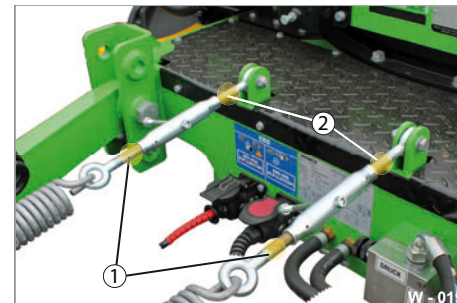

Fig. 15 Lubricating height setting
► Lubricate the threaded bolt (Fig. 15/1 & Fig. 15/2) all around with machine lubricant.